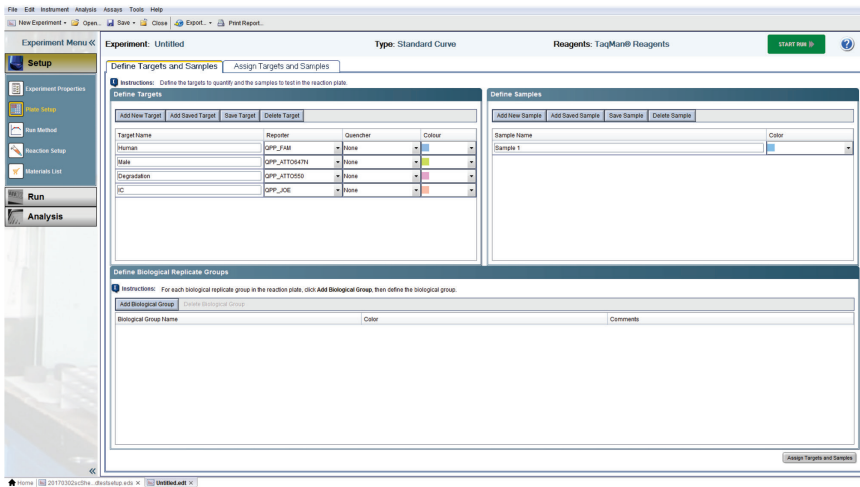

Figure 27. Selecting the correct "Target" settings.
12. Click **Plate Setup** and define four Targets by clicking twice on **Add New Target**. Select the following settings (Figure 27).